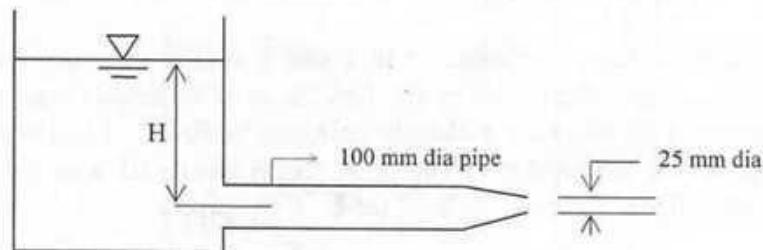

Figure 2
(b) A nozzle at the end of a pipe (figure 2) discharges oil ( $S = 0.8$ ) from a tank to atmosphere. Estimate the discharge from the nozzle when the head  $H$  in the tank is 4.0 m. The loss in the pipe can be taken as  $20V_1^2/2g$ , where  $V_1$  = velocity in the pipe. The loss of energy in the nozzle can be assumed to be  $0.11V_2^2/2g$ , where  $V_2$  = velocity in the nozzle. Also determine the pressure at the base of the nozzle. (16)